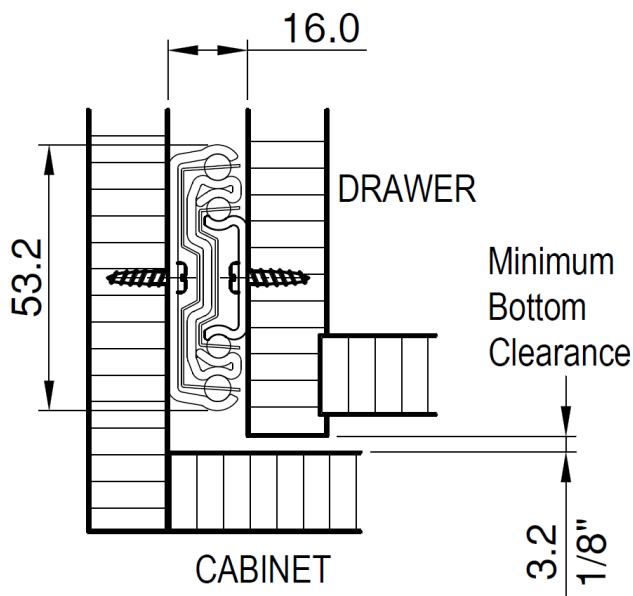

Fig. 1
1. To install gap per side 16.0mm is required between the cabinet and drawer. (Ref. Fig. 1)